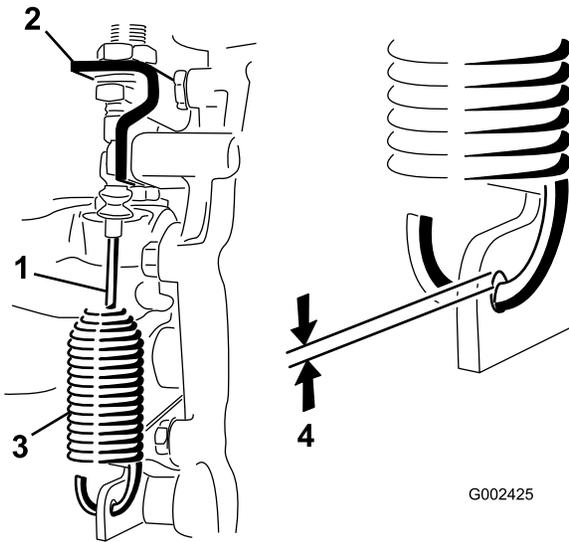

Figure 57
1. Remove the clevis pin securing the High—Low cable to the transaxle (Figure 57).
- Loosen the jam nuts securing the differential lock cable to the bracket on the transaxle (Figure 57).